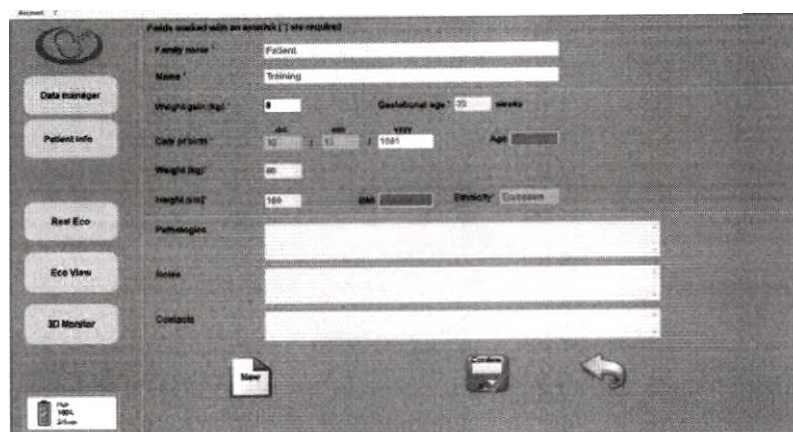

Figure 49. Select of button «Confirm».
2.3. Select the "save" button and then "confirm" to confirm data entry (Fig. 49):